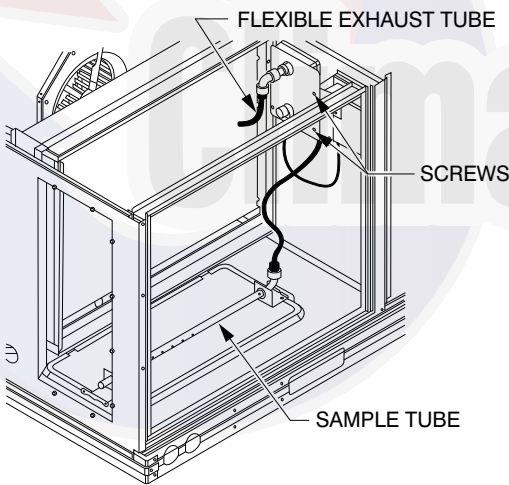

Fig. 49 - Return Air Detector Shipping Position
1. Unscrew the two screws holding the Return Air Sensor detector plate. See Fig. 49. Save the screws.